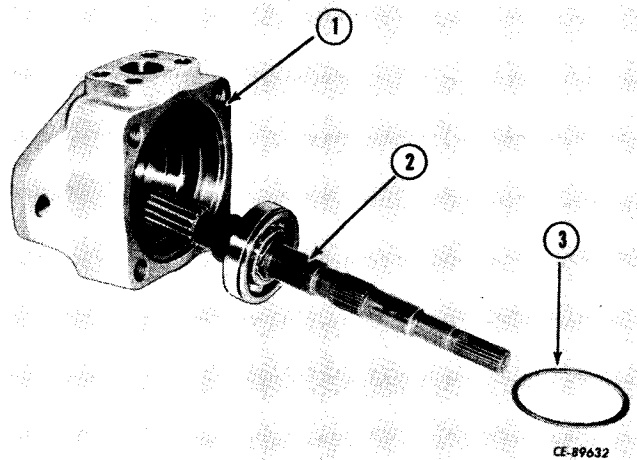

Figure 11-12
Remove the snap ring (3, Fig. 11-12). Remove the shaft with bearing (2) from the body (1).